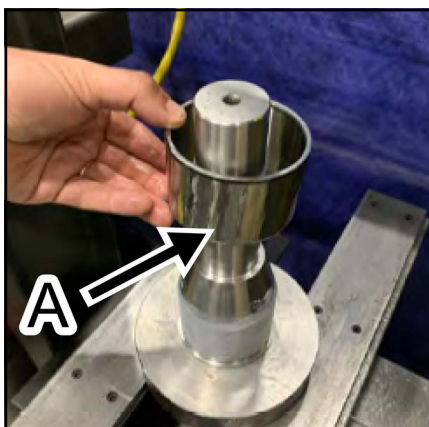

Figure 274 -Place inner race on shaft
3. Place the inner race of the needle roller bearing (Figure 274, item A) onto the shaft.